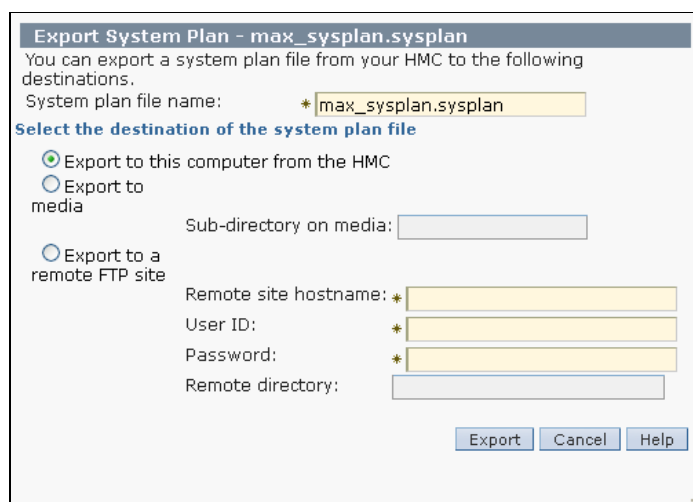

Figure 2-6 Export System Plan window
2. Click **Export System Plan** either from the Tasks menu or the content Tasks link in the lower portion of the window. A dialog box opens asking where you want to export the system plan (Figure 2-6). In our example, the name of the sysplan file is max_sysplan.sysplan and the target is to local computer directory.